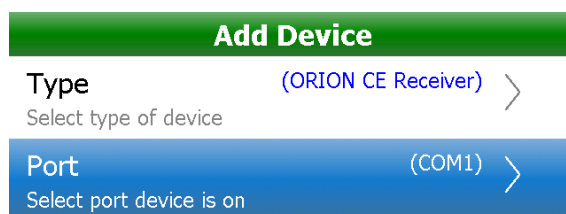

Figure 96: Device type and COM port selected
*Result: The device selected is displayed in the Type field. The example in Figure 96 shows the ORION CE Receiver was selected.*
*Result: The COM port selected is displayed in the Port field. The example in Figure 96 shows COM 1 was selected.*